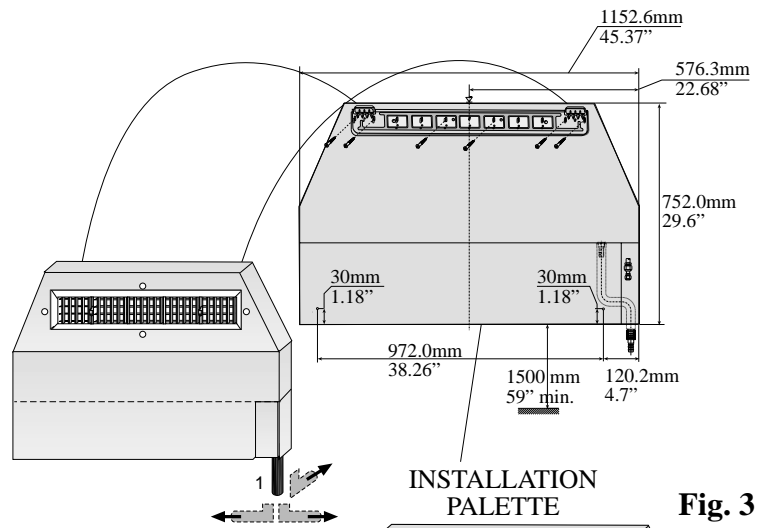

Fig. 3
- The refrigerant lines may be routed in either of the two directions shown in Figure 3
- Position the mounting bracket on the wall and level it using a spirit level. Dimensions as they appear in Figure 3.